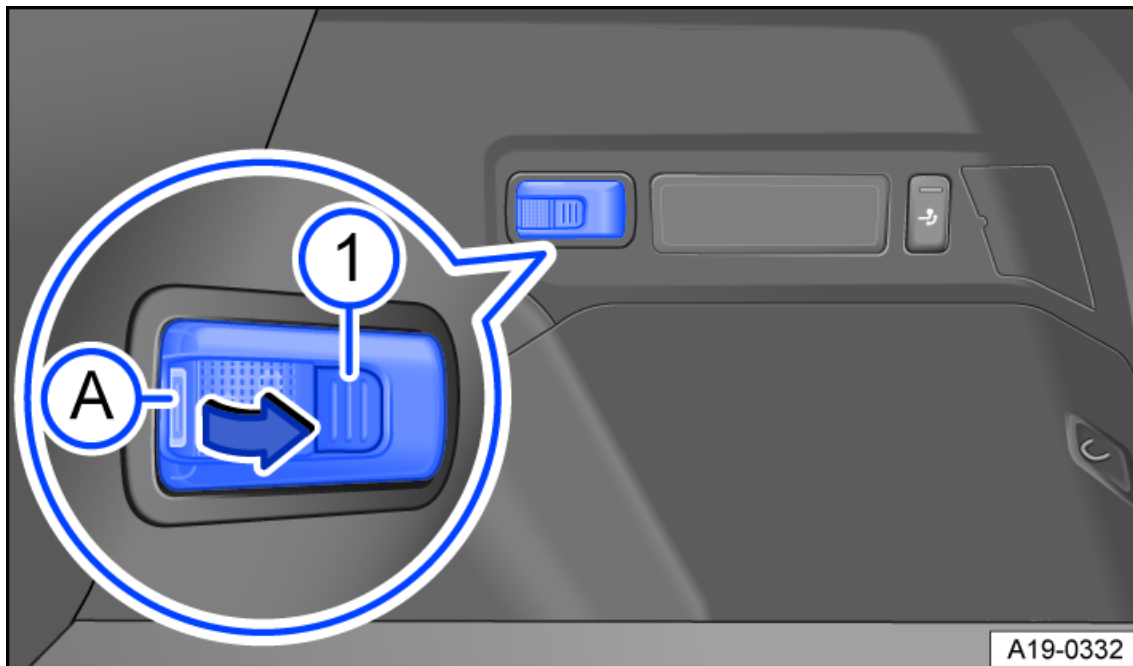

Fig. 180 In the luggage compartment (right-side): Removable luggage compartment light.
Depending on the vehicle equipment, there is a removable light in a bracket in the luggage compartment fig. 180.
1. Take hold of the removable luggage compartment light in the area fig. 180.
1. Press the button fig. 180.
2. Depending on the design, press the button fig. 180 again to set the brightness to 50%.
3. Press the button fig. 180 again to switch off the removable luggage compartment light.
1. Switch off the removable luggage compartment light and push it into the bracket in the opposite direction to the arrow fig. 180.
2. Remove the battery cover with a thin object below the area *fig. 180*.